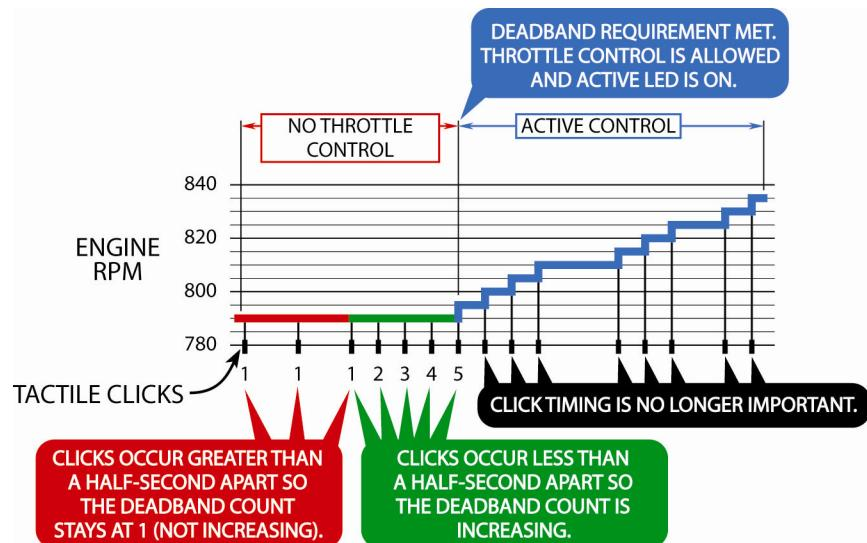

Figure 8. Initial deadband explanation.
In the previous graphic (Figure 8) the first three tactile clicks are more than a half-second apart and are not counted for the required number of deadband clicks. The next series of tactile clicks are a half-second (or less) apart and the deadband counter counts each one up to the required number of clicks (5). The Twister then activates the blue **ACTIVE** LED and allows active throttle control. Subsequent tactile clicks change the RPM of the engine and the timing between clicks is not important. The initial deadband requirement will not be required again until the IDLE button has been pressed and the engine RPM has been reduced to curb idle.